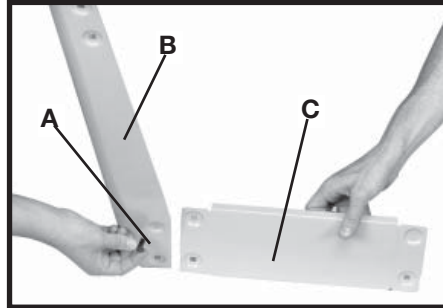

Fig. 5
1. Insert a $\frac{5}{16}$ -18 x $\frac{5}{8}$ " Carriage Head Screw (A) Fig. 5 through the leg (B) and then corresponding hole in the panel (C) as shown in Fig. 5. **NOTE:** Make sure the squares of hex screw align with the flat sides of the hole opening.